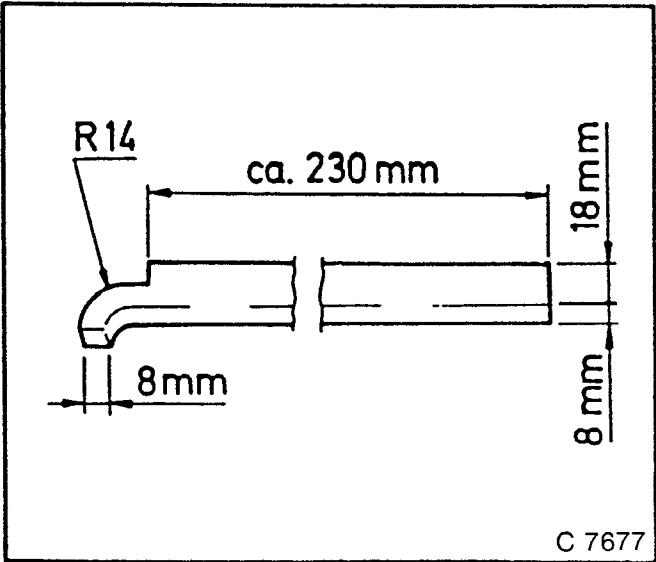

Fig. 39
- 3. Drive outer race of **INNER BEARING** out of disc hub with a soft metal drift (see fig. 39).
- 4. Drive outer race of **OUTER BEARING** out of disc hub with a soft metal drift (see fig 39) or suitable length of pipe. Place KM—466—2 under it.